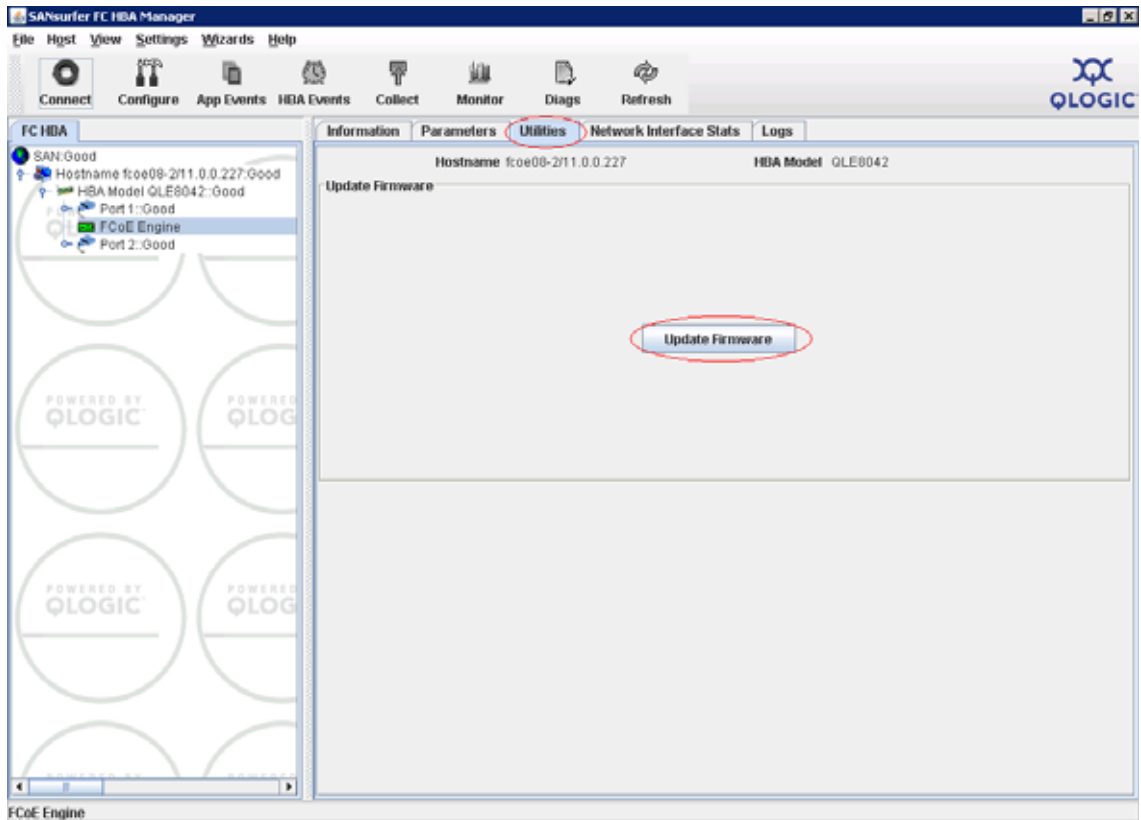

Figure 76 Utilities tab
- To update the Menlo firmware of the adapter, click the **Utilities** tab and then click **Update Firmware**, as shown in Figure 76.